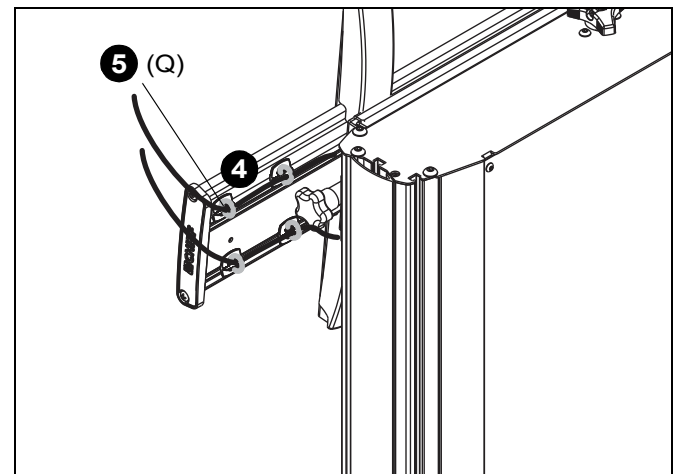

Figure 20
4. Route cables along FCA clips (P) to be used for cable management. (See Figure 20)
5. Use cable ties (Q) to secure cables to FCA clips. (See Figure 20)